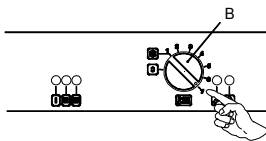

Figure 15.7
- Turn the boiler ON positioning the function selector B in the position shown in figure 15.7 and ensure that the room thermostat is set to "heat demand".
- Watch the gauge and check to see if the ignition pressure registered corresponds to the values given in the Technical Data. Turn off the boiler and reignite it by turning the function selector B to the 0 position and then back to that indicated in figure 15.7.